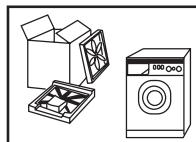

Fig.1
- As shown in figure 1 remove all the packing materials(including the foam base).